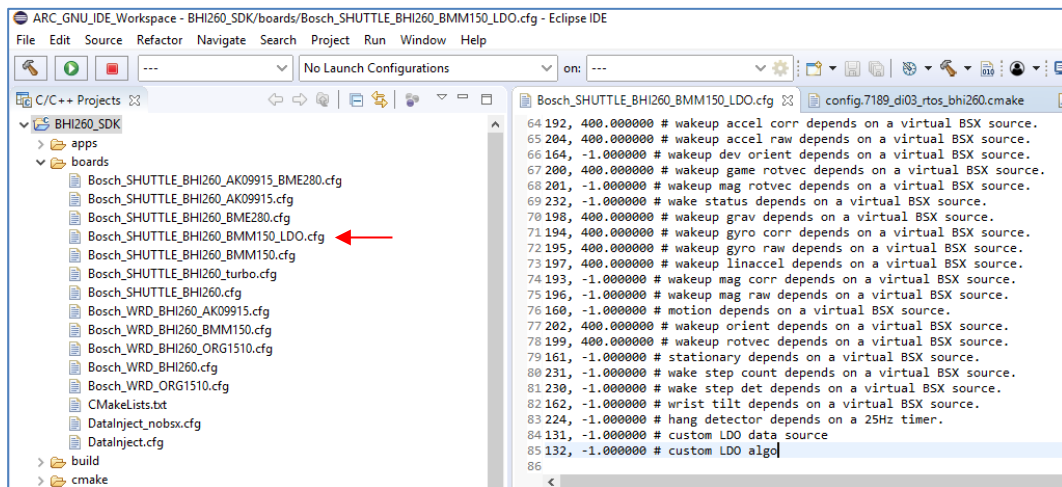

Figure 12 Create a new *.cfg file
- Open the “boards” folder under BHI260_SDK project in ARC GNU IDE. Copy and paste “Bosch_SHUTTLE_BHI260_BMM150.cfg” file and then rename it as “Bosch_SHUTTLE_BHI260_BMM150_LDO.cfg”. At the end of this file, add below two lines as shown in Figure 12.